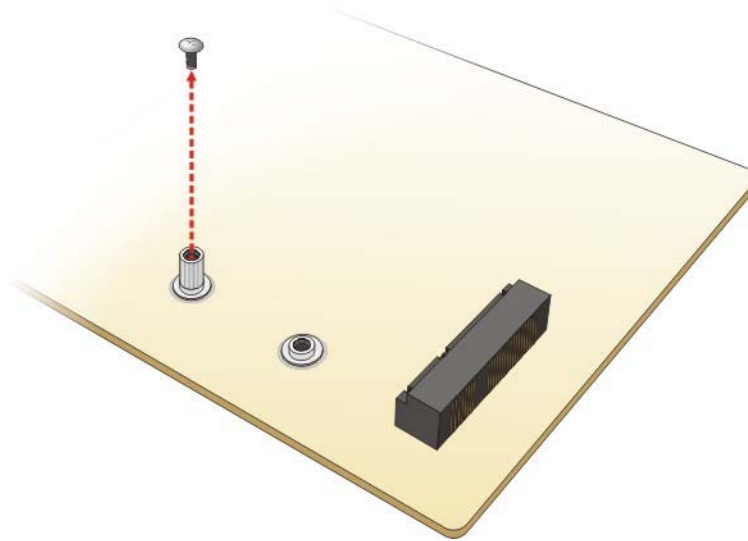

Figure 4-8: Removing the Retention Screw
- Step 2:** Remove the retention screw. Remove the retention screw as shown in **Figure 4-8**.
Step 2: **Remove the retention screw.** Remove the retention screw as shown in **Figure 4-8**.